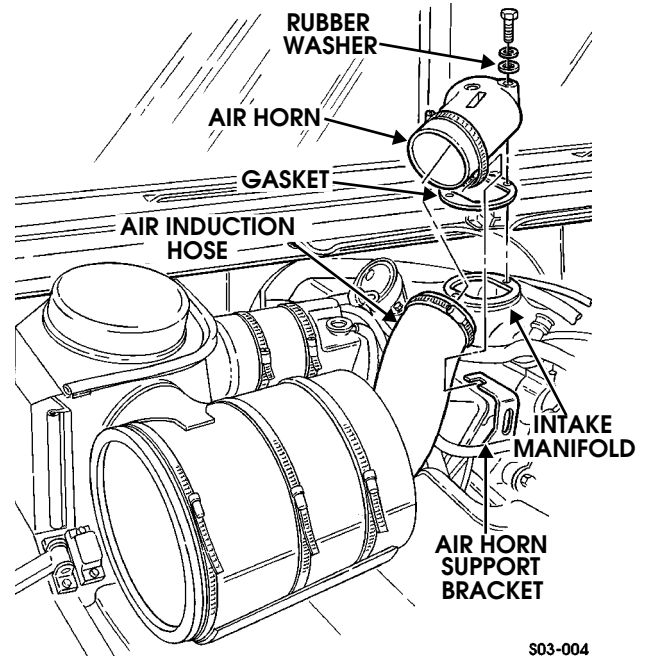

Figure 3-22: Air Horn Mounting (Diesel)
1. Loosen clamp and remove air inlet hose from air horn (Figure 3-22).
1. Install gasket on intake manifold (Figure 3-22).